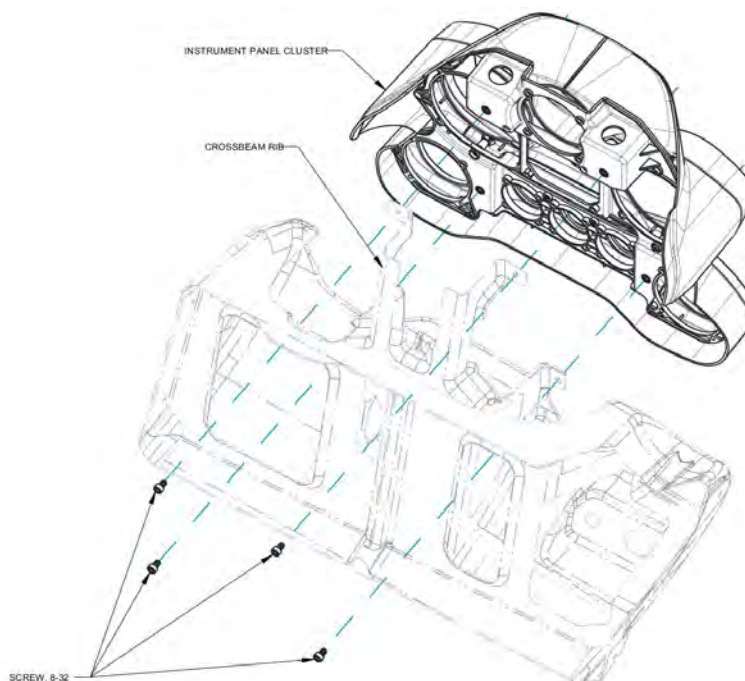

FIGURE 14-20
2. Remove four #8-32 cluster attachment screws. See Figure 14-20.